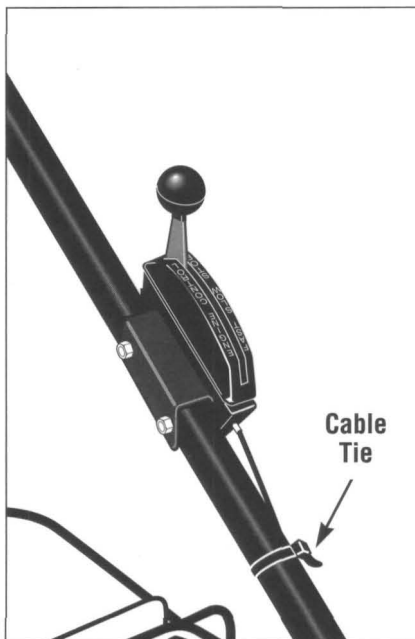

Figure 2: On 4HP Model, secure throttle cable with cable tie as shown.
a.) Secure the cable to the handlebar with a cable tie located approximately 5-inches below the throttle lever (see Fig. 2).